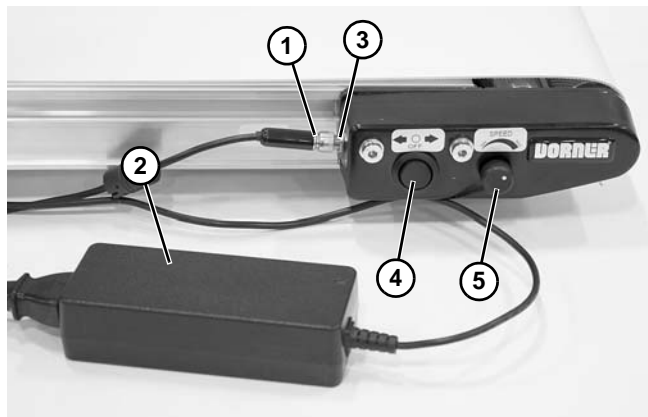

Figure 21
1. No wiring is required. Attach quick disconnect end (**Figure 21, item 1**) of power supply (**Figure 21, item 2**) to power jack (**Figure 21, item 3**).
2. Select conveyor running direction with directional switch (**Figure 21, item 4**).
3. Select conveyor speed with speed control knob (**Figure 21, item 5**).